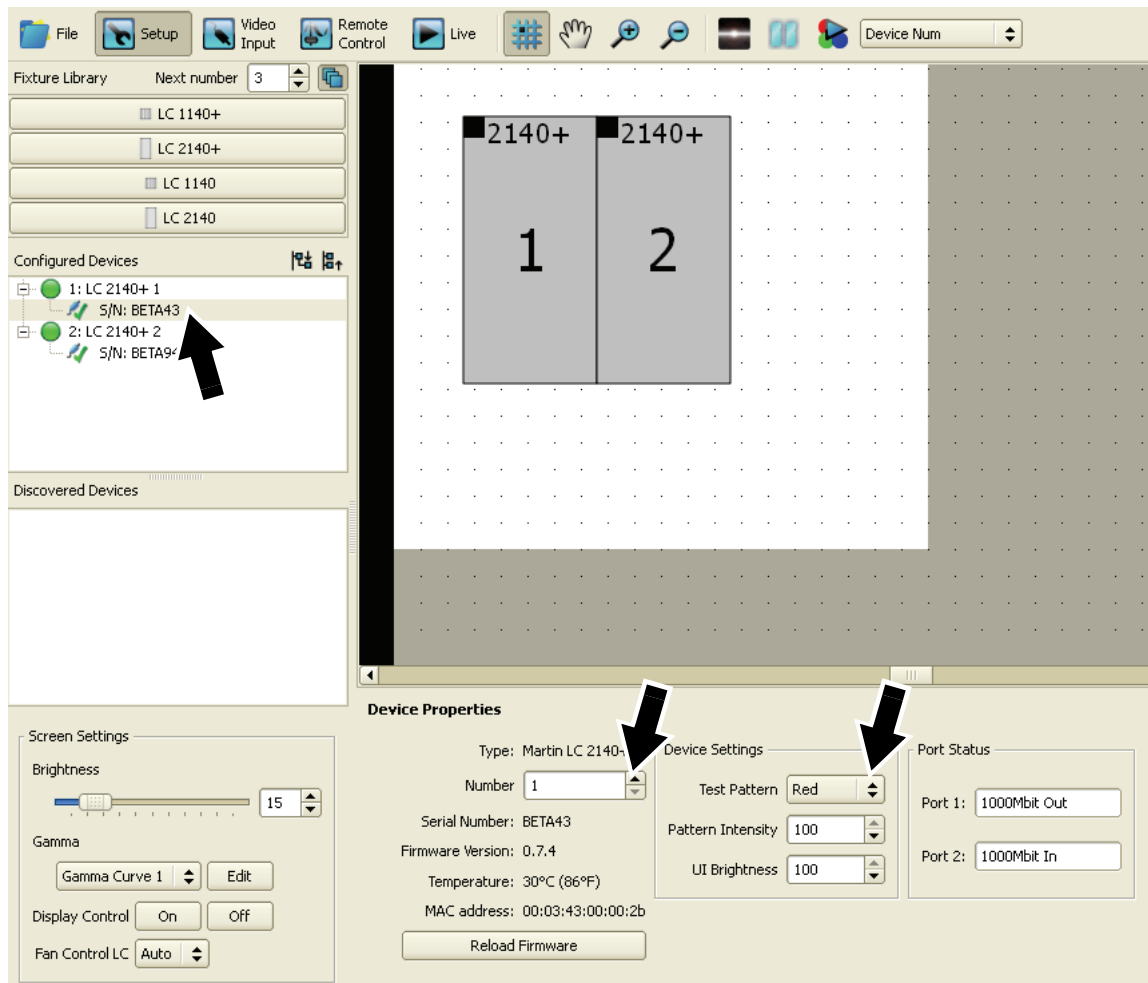

Figure 14: Device Properties for Discovered Devices
1. See Figure 14. If any panels are listed under **Configured Devices**, click on the plus symbol next to each panel so that you can see each panel's serial number (arrowed), then click on each panel's serial number to select that physical panel. Each time you select a physical panel's serial number, its **Device Properties** will appear at the bottom of the **Setup** window.
2. See Figure 14. For each panel, first set it to display a test pattern under **Device Settings** (arrowed), then look at the physical installation to see which panel is displaying the test pattern. Check that this panel has the correct display address for its position in the installation with reference to your plan of the installation layout or the panel numbers in your on-screen 'virtual' installation. If the panel's display address is not correct, enter its correct display address in the **Number** box under **Device Properties**. The panel's